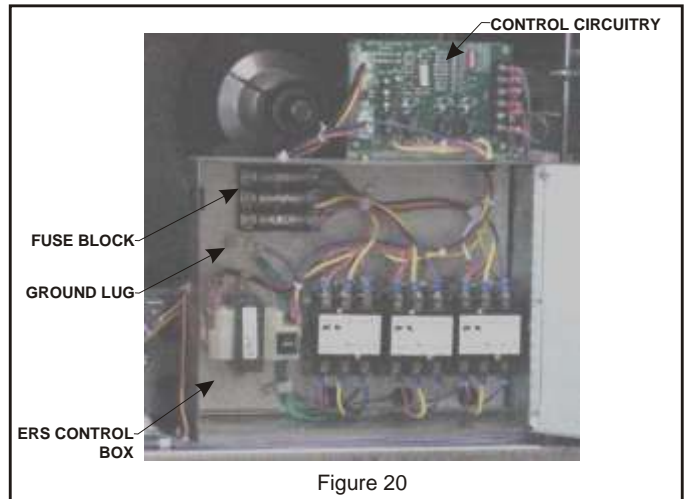

Figure 20
15. Connect line voltage power to ERS unit from rooftop unit disconnect switch through the knock out near the exhaust air hood. Connect the line voltage to the ERS control box per the wiring diagram. **See Figure 20.**